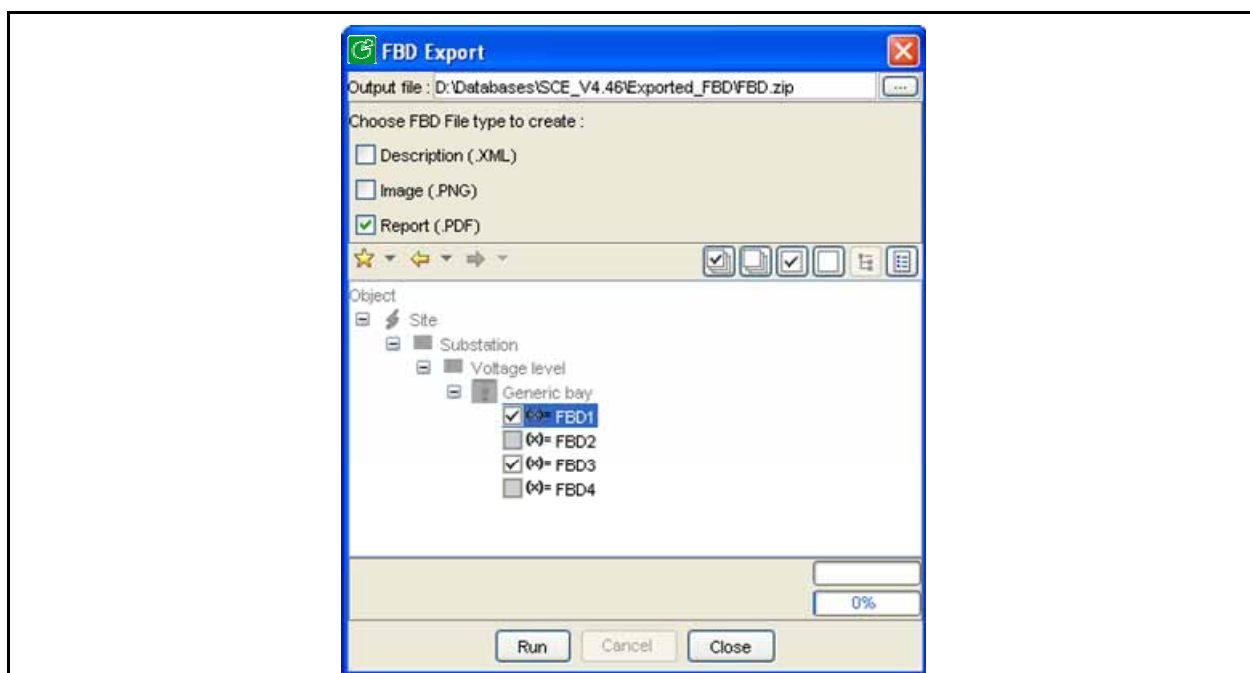

FIGURE 188: GLOBAL FBD EXPORT DIALOG BOX
- the diagram picture (see figure 188)